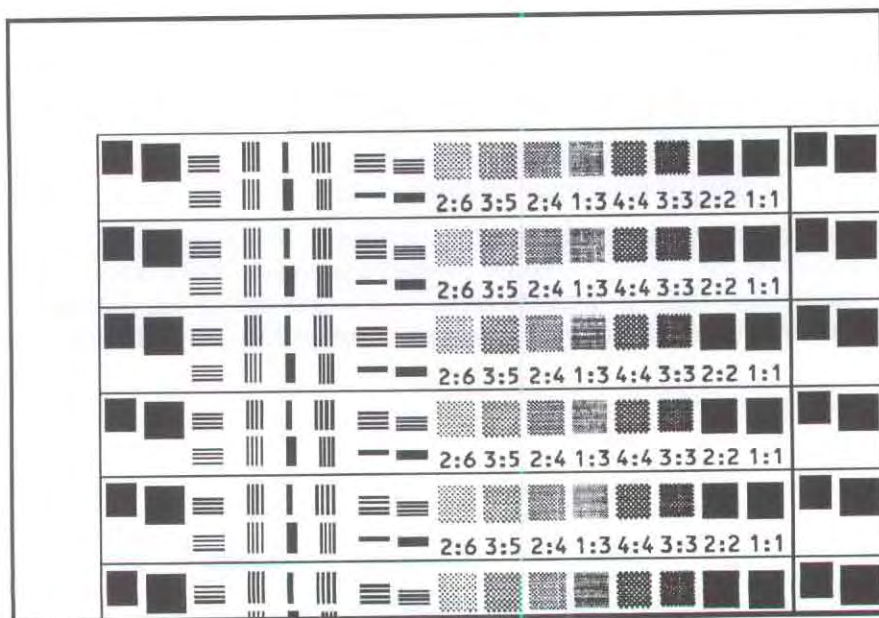

Figure 7-20. Sample of Service Mode (Chart A) Self test
2. Hold down the **Test** key for two to five seconds until the message 05 SELF TEST is displayed. The Chart A printout shown in Figure 7-20 will be printed.